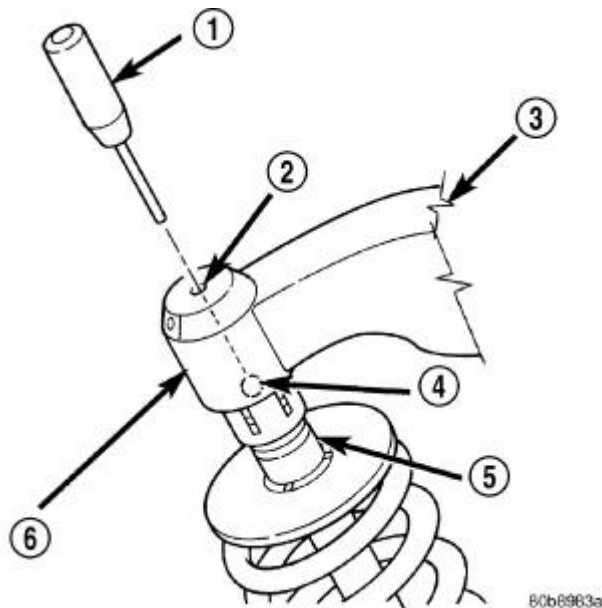

Fig. 180: Purging Air From Lash Adjuster
1. Adjust Special Tool (special tool #8351, Release Probe) (1) Release Probe's gauge pin to extend approximately 20 mm (0.787 in.). Then, carefully insert the release probe gauge pin into the lash adjuster (6) service access hole (2). Refer to **Fig. 180**.
1. Adjust Special Tool (special tool #8351, Release Probe) (1) Release Probe gauge pin to extend approximately 20 mm (0.787 in.). Then, using two release probes, carefully insert gauge pins into the lash adjuster service access holes. Refer to **Fig. 180**.